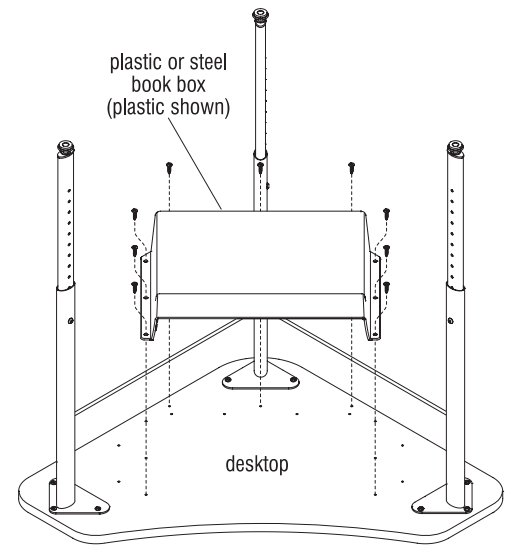

Figure 9
1. Carefully turn the desktop upside down on a soft, protective surface (Figure 9).
2. Position the plastic book box, as illustrated onto the underside of the desktop. Align book box to pre-drilled holes in desktop. Using the appropriate screws (See Details A & B, page 1), secure the plastic book box to the desktop using all book box mounting holes. Do not overtighten screws (Figure 9).